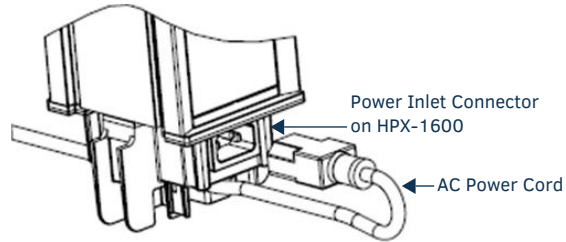

FIG. 2 HPX-1600 - POWER INLET CORD REMOVED
**CAUTION!** Ensure that the AC Power cord is disconnected from IEC C-14 power inlet connector on the Hydraport Base Assembly, or is disconnected from the AC Mains Power Branch Circuit, prior to disassembly of the Hydraport Base assembly or installation of the HPX-P200-XX Power Outlet Module (see FIG. 2).